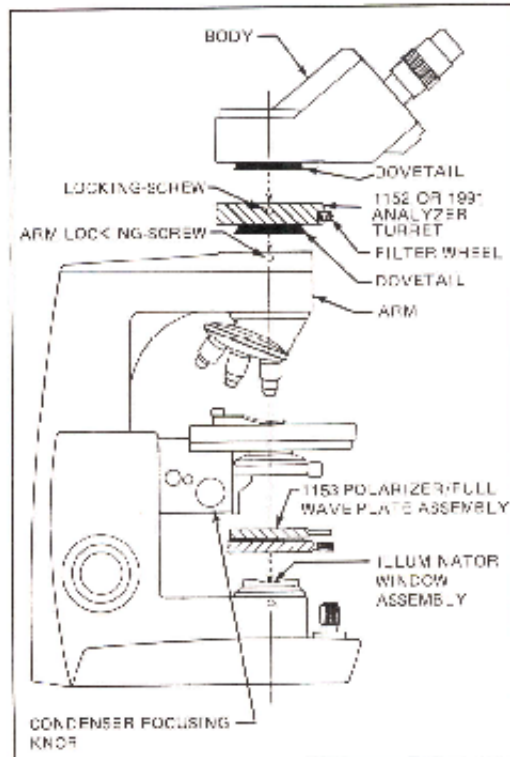

Figure 1
1. Remove Body and place Turret on stand as shown in Figure 1.
2. Orient turret so that Filter Wheel faces front of microscope (Figure 1). Tighten Arm Locking Screw.
2. Place 1153 Polarizer on Illuminator Window Assembly (Figure 1).